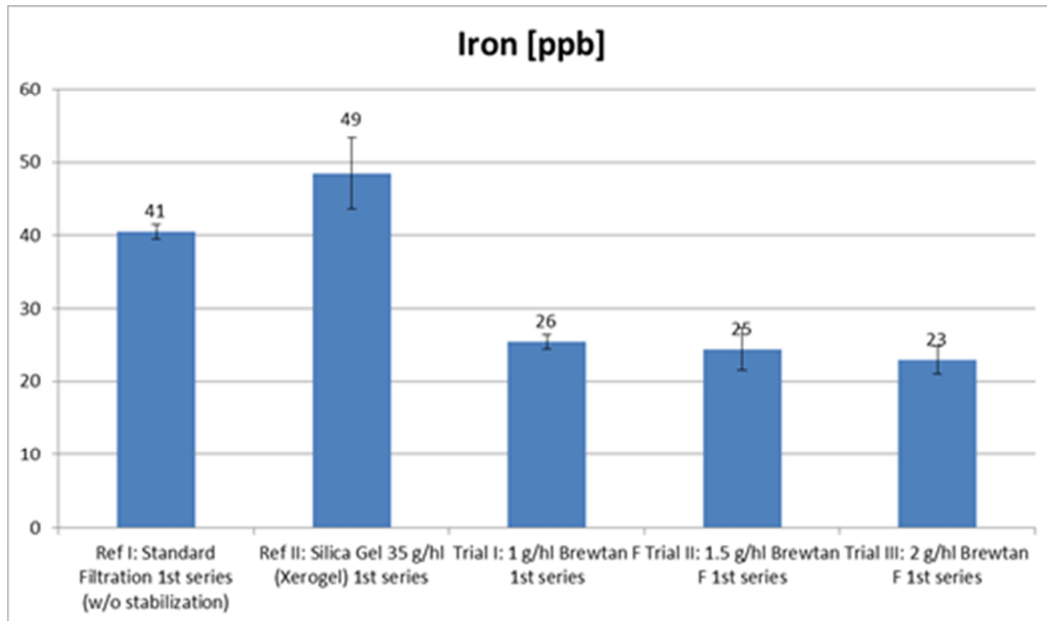

Figure 3.: Reduction of the iron content by Brewtan® F
The same comparative trial against Silica Xerogel (Figure 3.) clearly indicates that the addition of Brewtan® F reduces the iron content with approximately 50% compared to beer stabilised with Silica Xerogel (1).